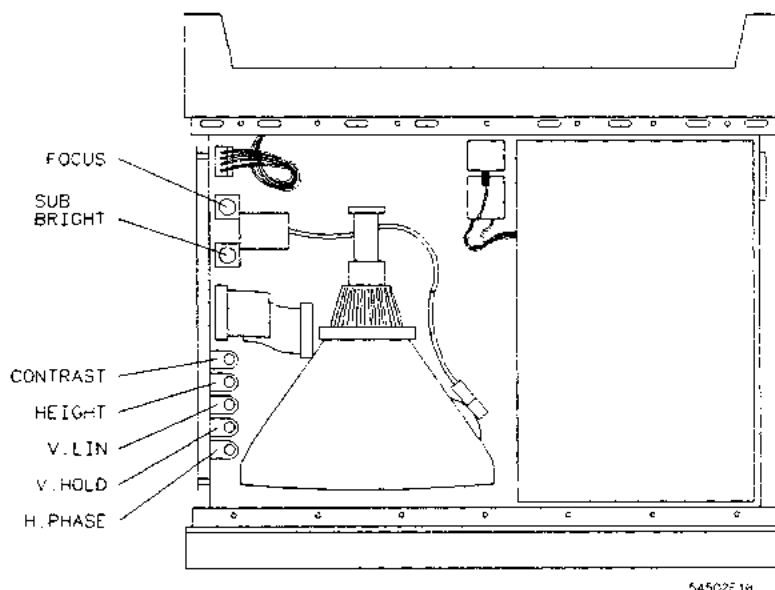

Figure 4-2. CRT Adjustment Locations
3. Refer to figure 4-2 for the adjustment locations.
1. Refer to the previous figure 4-2 for the adjustment locations.
1. Refer to the previous figure 4-2 for adjustment locations.